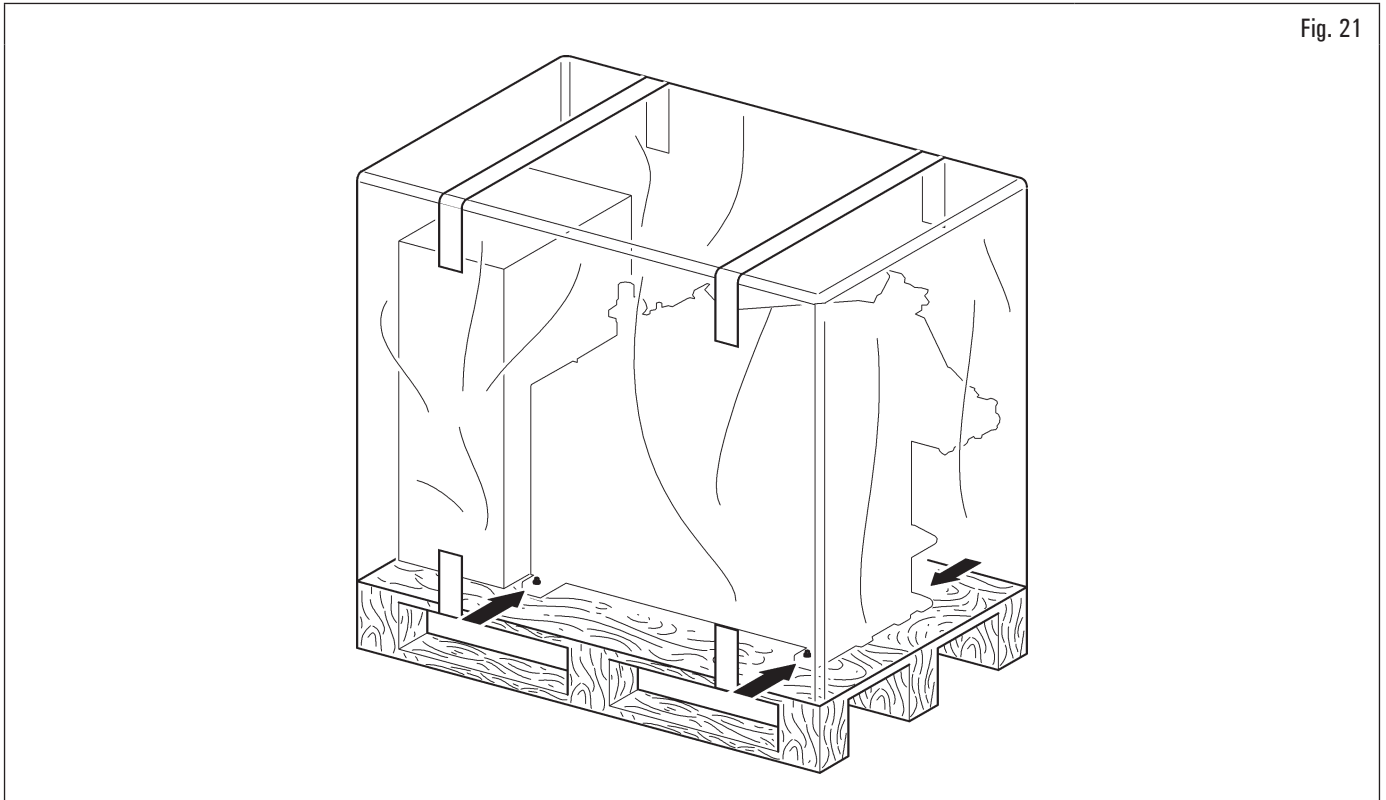

Fig. 21
- The equipment is usually shipped partially assembled as shown in Fig. 21.
- lift carefully, using adequate load support means, in perfect working order, using the appropriate signs placed on the packaging Fig. 21.